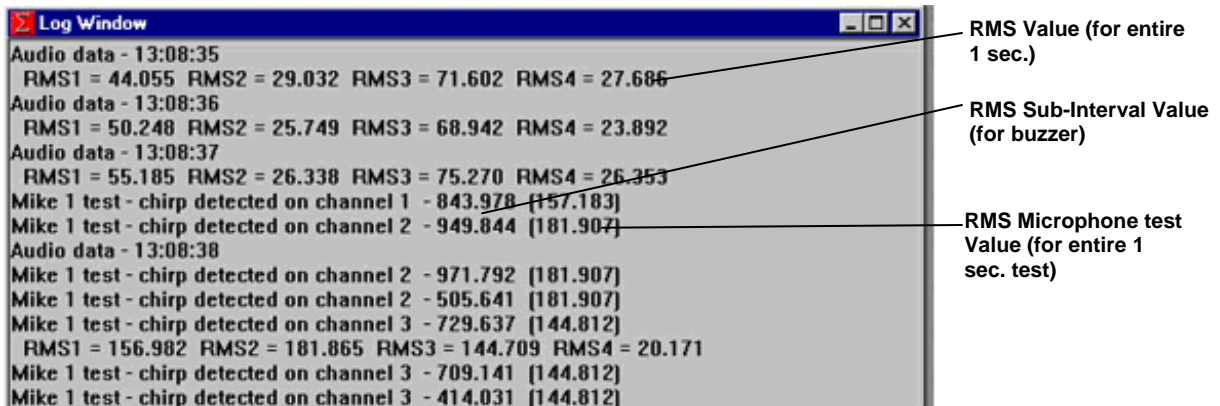

Figure 8-29 - Microphone Test Results
4. **Review the test results in the Log Window as illustrated in Figure 8-29 - Microphone Test Results.**